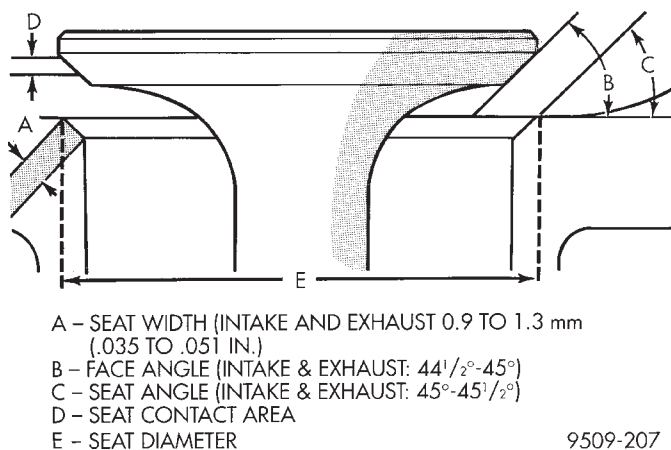

Fig. 48 Valve Seat Refacing
(6) Valve seats which are worn or burned can be reworked, provided that correct angle and seat width are maintained. The intake valve seat must be serviced when the valve seat width is 2.0 mm (0.079 in.) or greater. The exhaust valve seat must be serviced when the valve seat width is 2.5 mm (0.098 in.) or greater. Otherwise the cylinder head must be replaced.
(7) When seat is properly positioned the width of intake and exhaust seats should be 0.75 to 1.25 mm (0.030 to 0.049 in.) (Fig. 48).